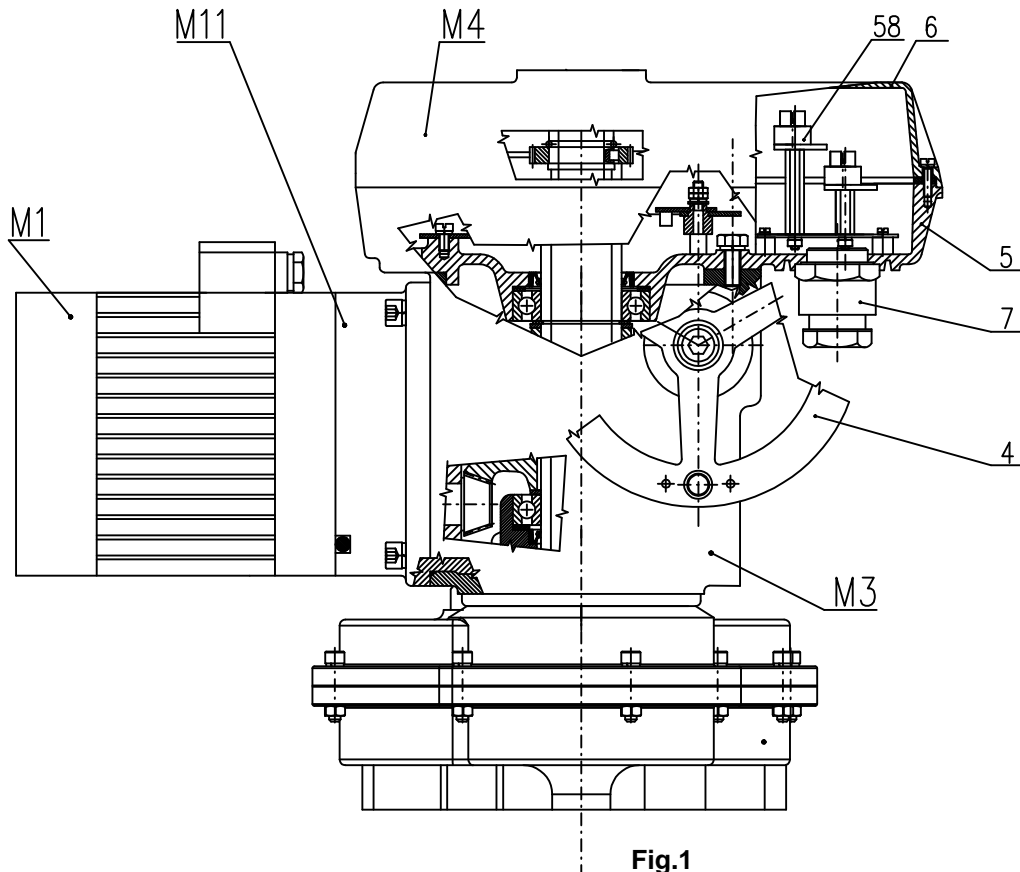
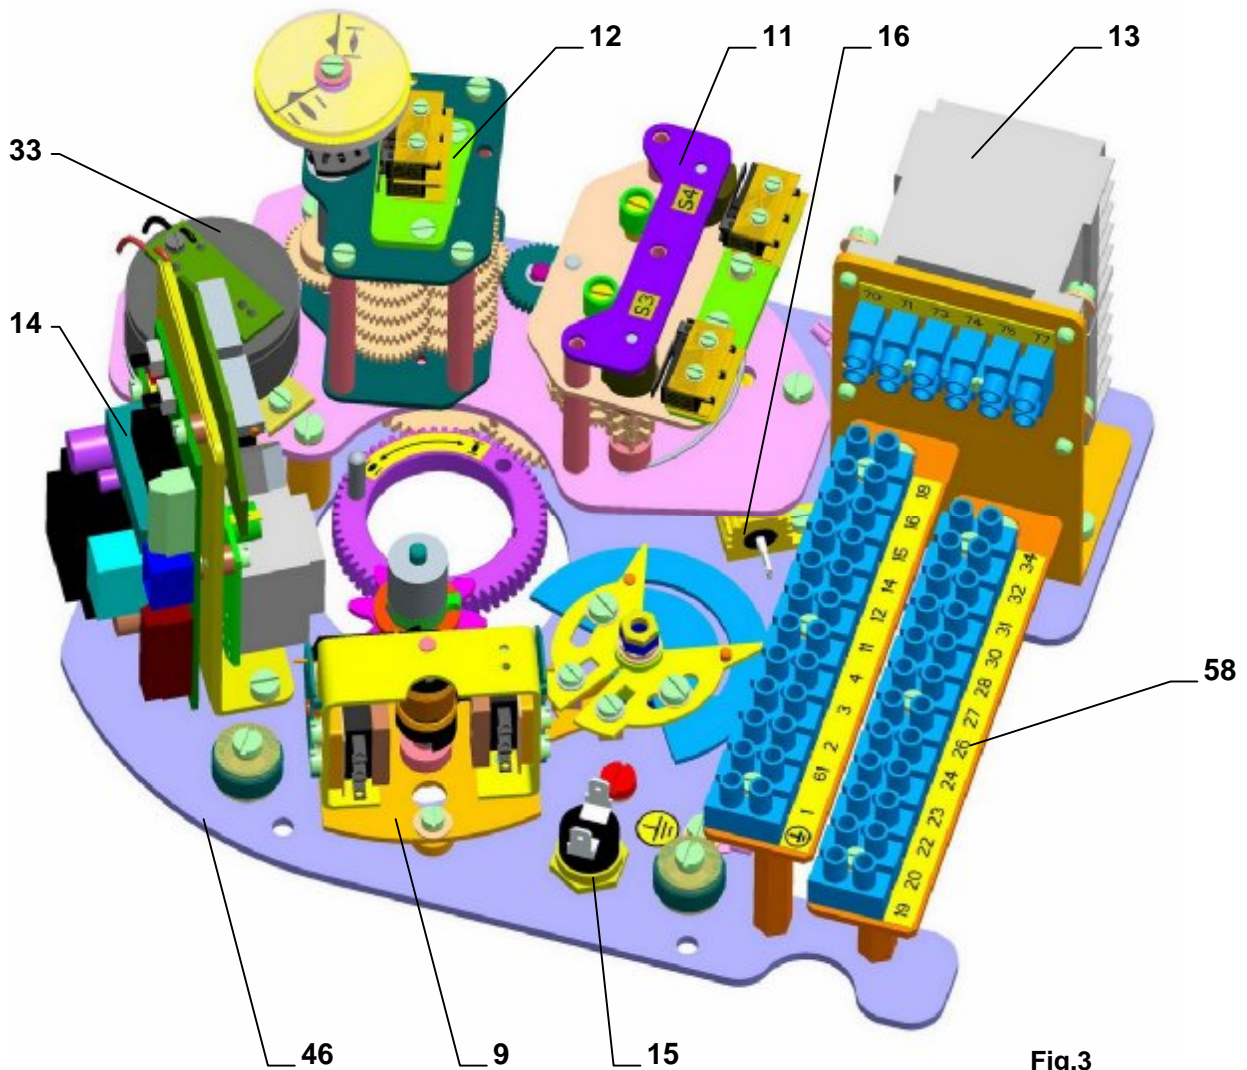

Fig.1
Fig.3
- Electric actuators must be placed with access to the manual control wheel (4) (Fig.1), to the cover of control box (6), to control box (M4), to bushings (7).
Electric multi-turn actuators **MO** consist of these modules (Fig.1):
Module M 4 – control box (Fig. 1,1a) Ex db IIC T4 a T5 Gb
(1) Fig.3,3a which contains:
- position unit (2) (Fig.3,3a,3c)
- signalling unit with gear unit (12)
- torque unit (4) (Fig.3,3a,3c) with torque disk (5) (obr.3,3a,3c)
- transmitter unit (33) (according to EA specification)
- heating resistor (16) with thermal switch (15)
- controller (only for EA **MO** with controller) (14)
- reversing contactors (13) (according to EA specification)
- electrical connections by means of terminals (58) (Fig.1) situated within terminal box, and cable bushings (7) (Fig.1), or connector with cable bushings